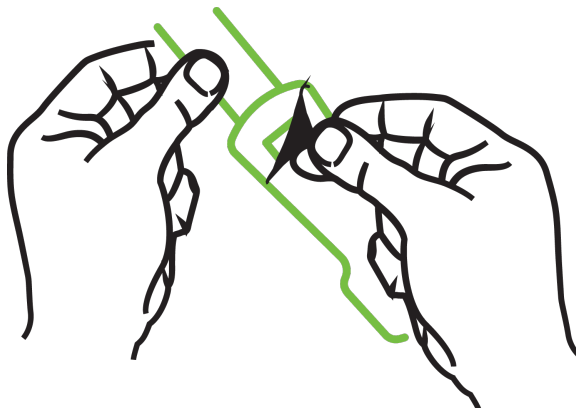

Figure 13-10: Removing protective liner from sensor
2. Remove and discard the protective liner from the sensor (Figure 13-10 on page 242).